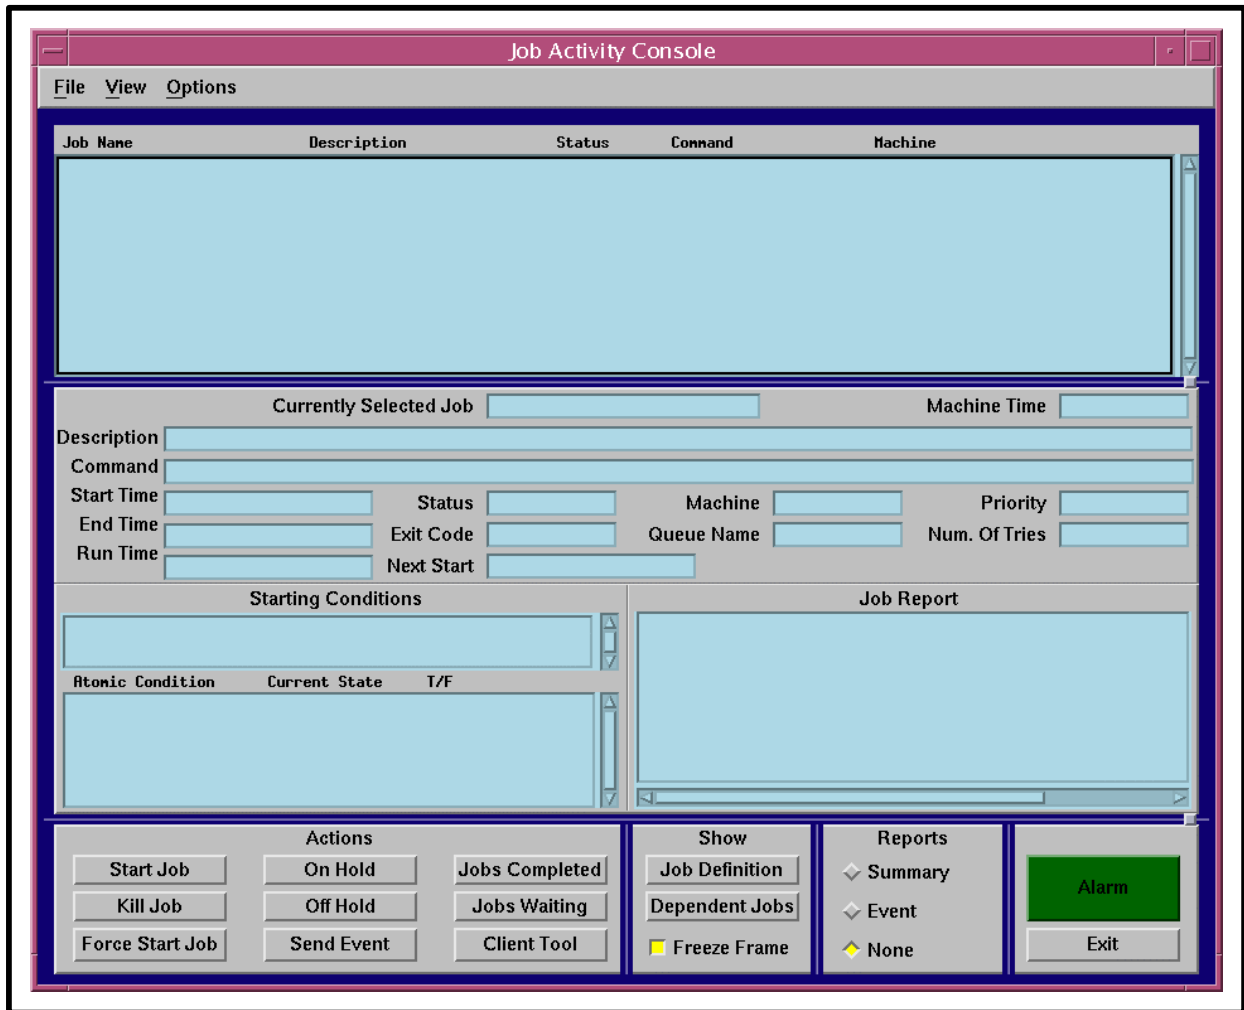

Figure 65. Job Activity Console (Ops Console) GUI
- The **Job Activity Console** GUI, also known as the **Ops Console** GUI, (Figure 65) is displayed.